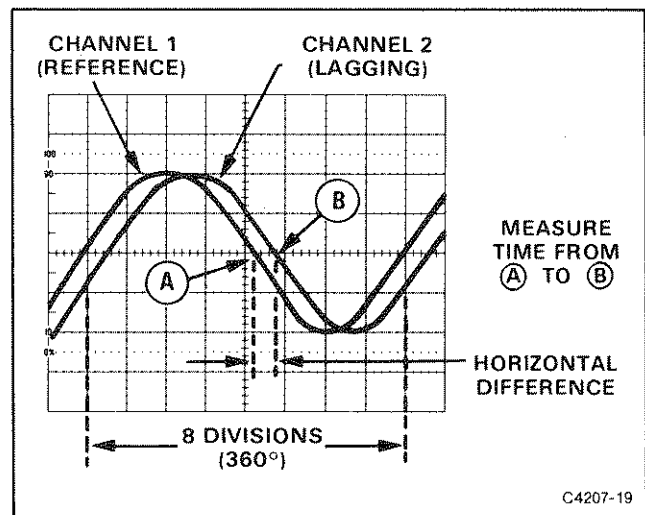
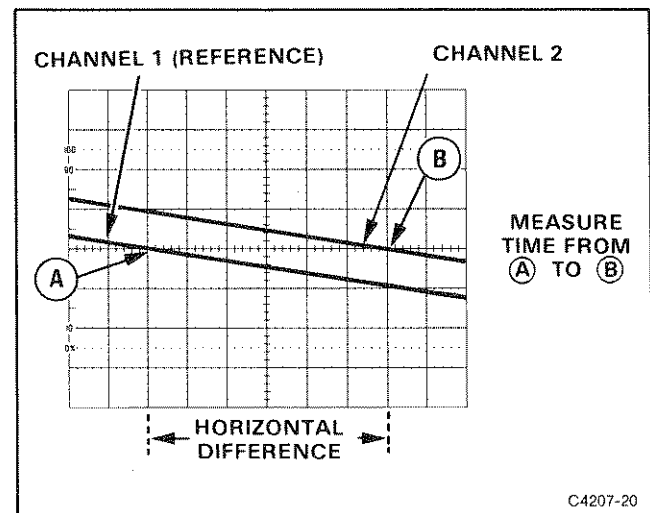

Figure 4-8. Phase difference.
Figure 4-9. High-resolution phase difference.
9. Position the displays and adjust the SEC/DIV Variable control so that one reference-signal cycle occupies exactly 8 horizontal graticule divisions at the 50% rise-time points (see Figure 4-8). Each division of the graticule now represents 45° of the cycle ( $360^\circ \div 8$  divisions), and the horizontal graticule calibration can be stated as 45° per division.
Example: The horizontal difference is 0.6 division with a graticule calibration of 45° per division as shown in Figure 4-8.
EXAMPLE: If the sweep speed were increased 10 times with the magnifier (X10 Magnifier button out), the magnified horizontal graticule calibration would be 45°/division divided by 10 (or 4.5°/division). Figure 4-9 shows the same signals illustrated in Figure 4-8, but magnifying the displays results in a horizontal difference of 6 divisions between the two signals.